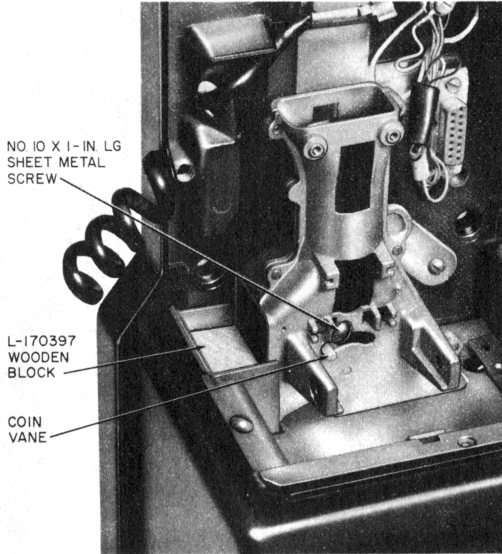

Fig. 3—Partial View of Lower Housing
2.04 The coin vane has been made stationary in the collect position by installing a No. 10 by 1-inch sheet metal screw through hopper (Fig. 3).
- (b) An L-170397 wooden block (Fig. 3) prevents coins from falling into the return chute.